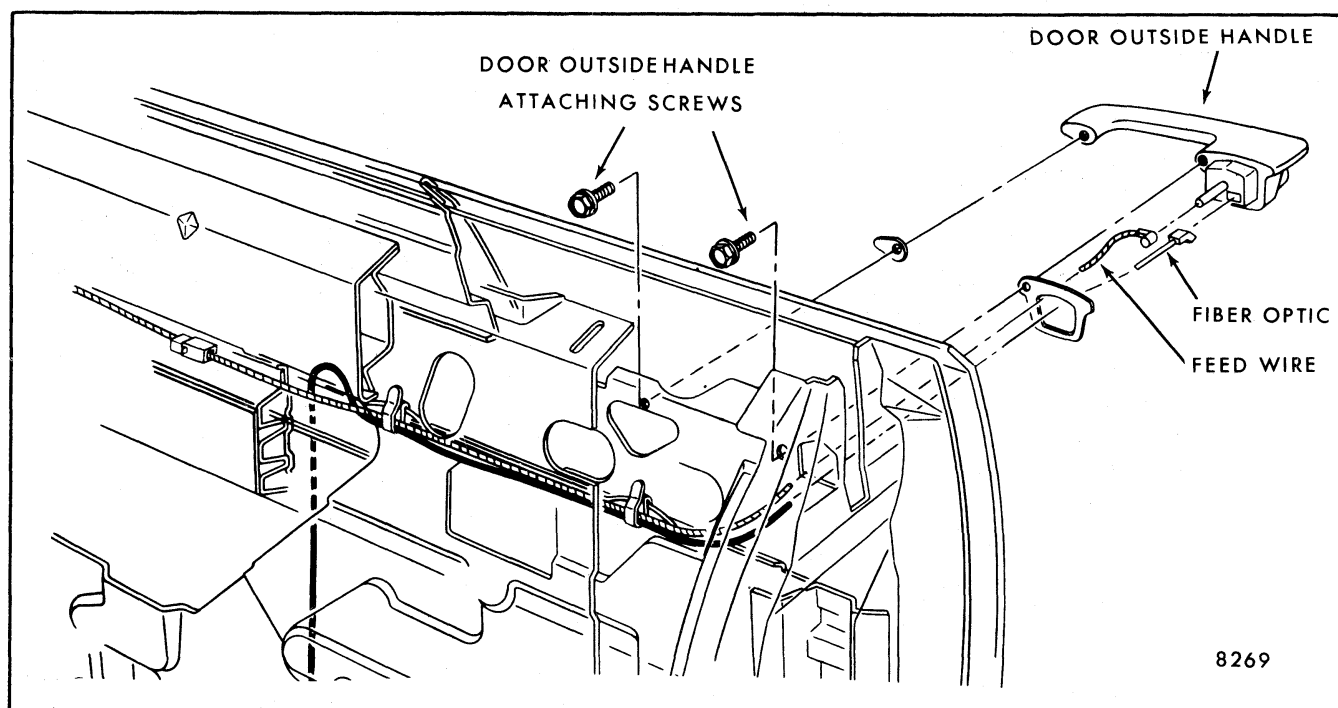

Fig. 5-33-Illuminated Door Handle - "B and C" Styles
- b. On styles with optional fiber optic accessory, disconnect fiber optic wire harness at door guard beam prior to removal of the handle (Fig. 5-33).